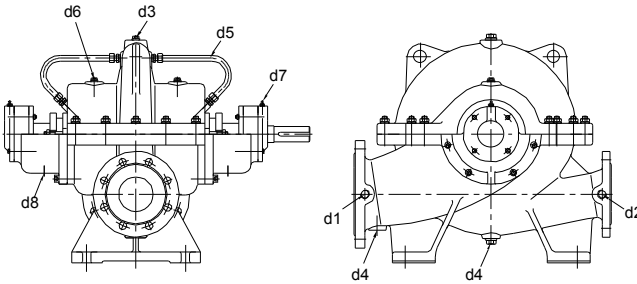

Fig. 8
- Every pump is fitted with connections on the pump casing to drain the pump and on the bearing bracket to evacuate the seal leakage from the stuffing box (**Fig. 8**). If required the pump drain and seal leakage can be piped to a suitable reservoir. The pump draining piping must be fitted with an isolating valve and both must be suitable for the maximum operating pressure of the pump.
- Cooling, sealing and flushing of seal piping must be connected only to the designated connections located on the pump (**See Fig. 8 to 12**).